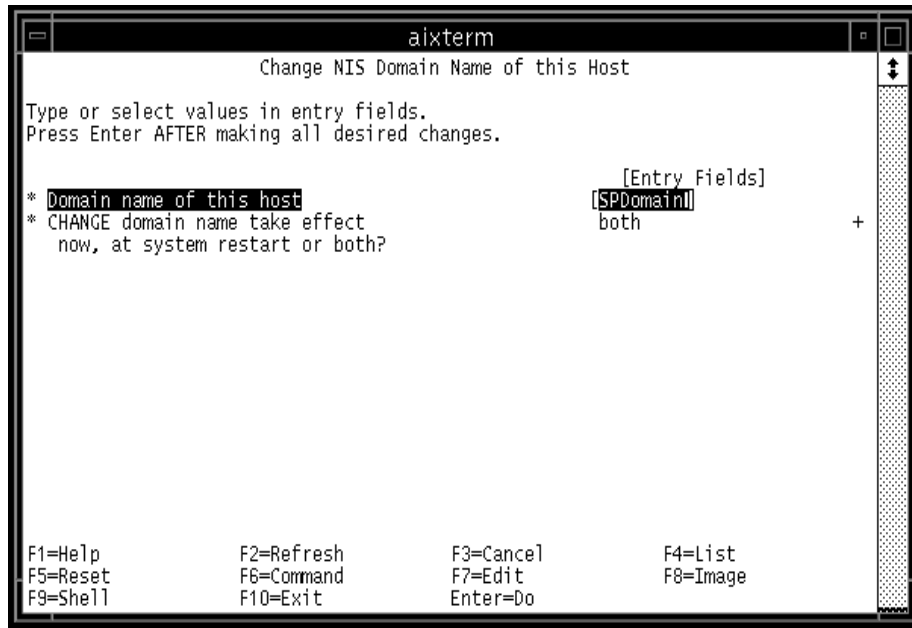

Figure 44. SMIT Panel for Setting a NIS Domain Name
- Choose **Change NIS Domain Name of this Host** to define the NIS Domain. Figure 44 on page 80 shows what this SMIT panel looks like. In this example, SPDomain has been chosen as the NIS domain name.